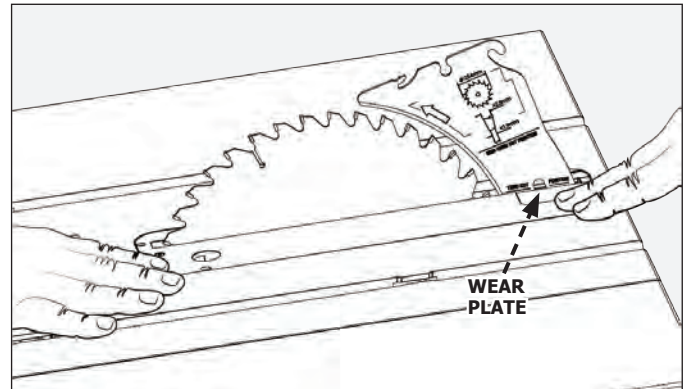

Figure 9
Insert the rear tab of the throat plate (J) (the end with the wear plates) under the surface of the table, and snap the front end in place (Fig. 9).
Check that the throat plate is properly adjusted to the table. Front of throat plate should be level or slightly below the surface of the table and rear of the throat plate should be level or slightly above the surface of the table (Fig. 9).